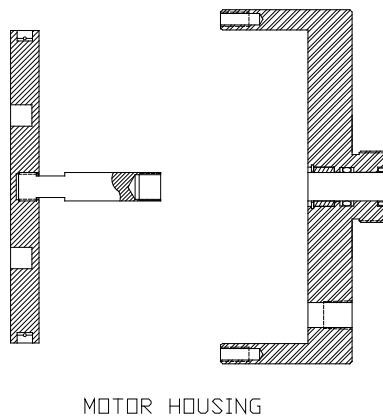

FIGURE 8
- 3.2.11 Carefully push the shaft #8 through the motor housing until the piston #3 clears the housing. Then, pull the piston and shaft out from the top (see Figure 8).